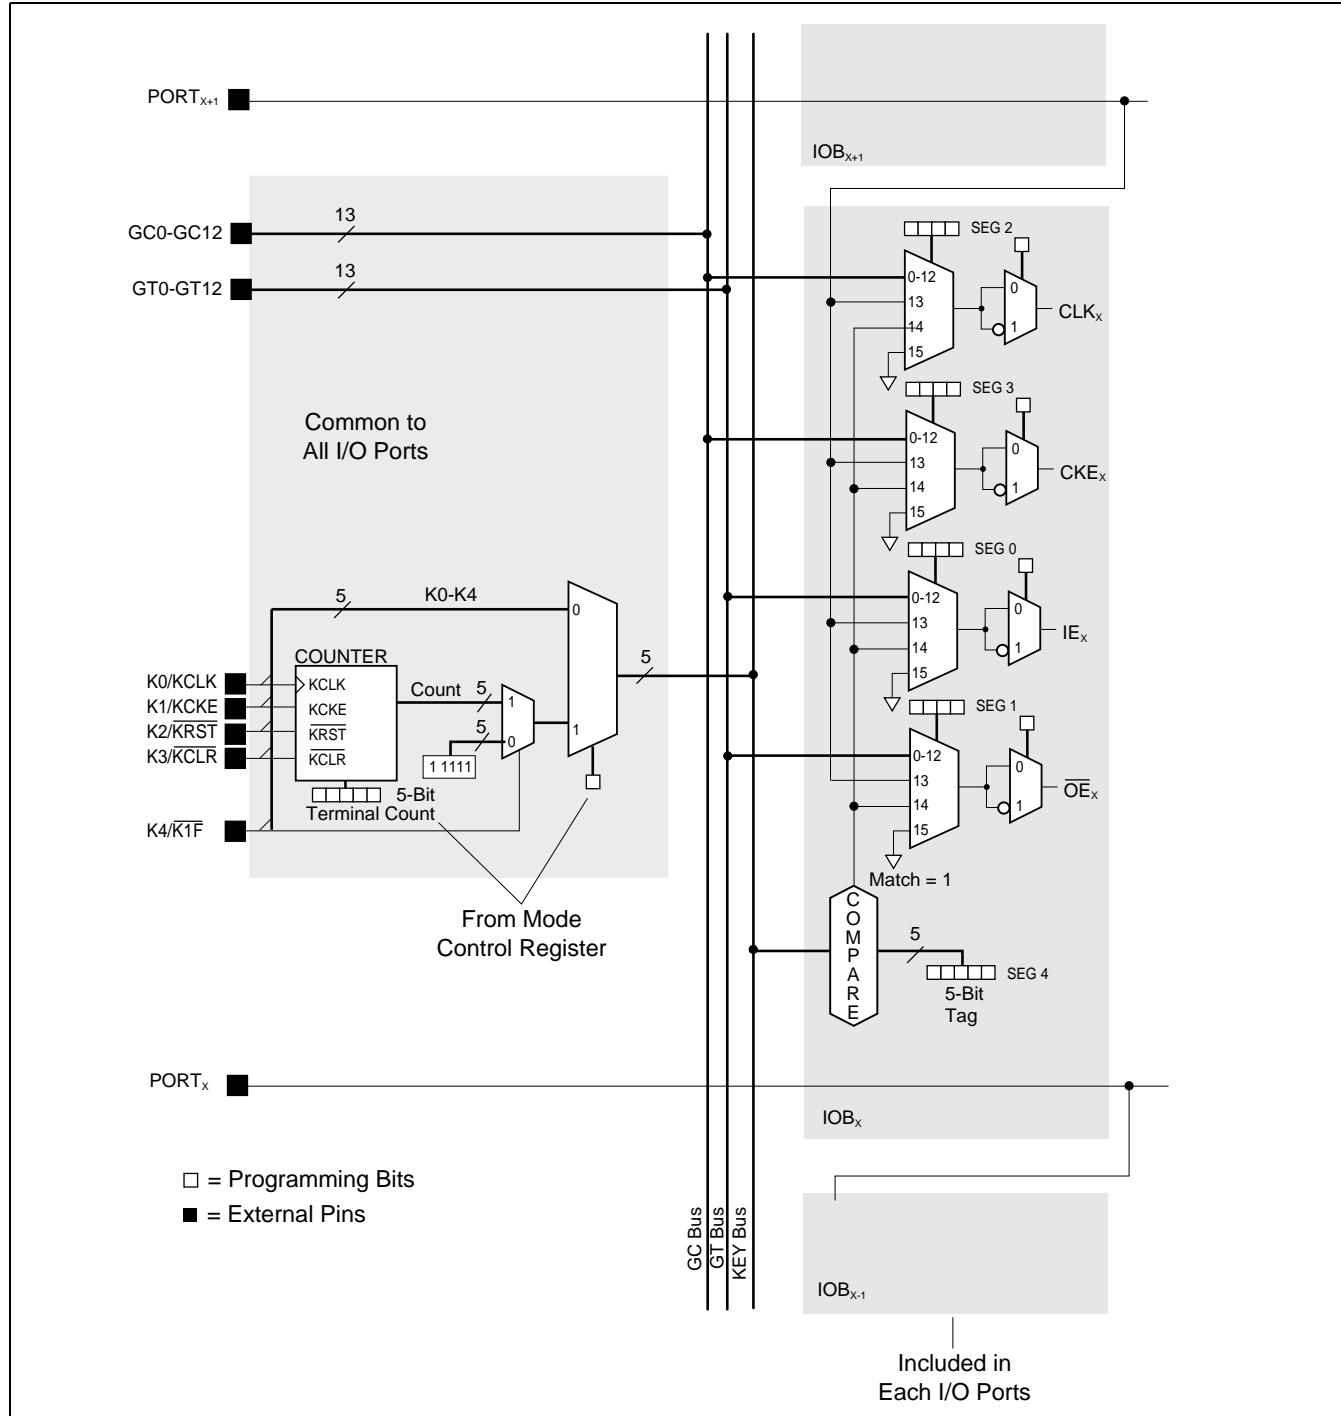

Figure 6. I/O Control
The IQX family has a structure that gives the user a lot of flexibility in controlling the behavior of each I/O Port. As shown in Figure 6 and described below, Clock (CLK), Clock Enable (CKE), Input Enable (IE) and Output Enable ( $\overline{OE}$ ) signals for each I/O Port can be selected from multiple sources. The control polarity can also be individually selected.
The Key Control feature on the IQX devices allows the user to encode mutually exclusive control signals for use as I/O control signals. The Key pins, K0 through K4 are shared with I/O Ports. This feature, shown schematically in Figure 6, works as follows:
When the device is reset all I/O Ports are set to the default configuration of flow-through input (IN). This is achieved by setting the 16-to-1 muxes shown in Figure 6, to select input 15 ( $V_{SS}$ ); while the 2-to-1 muxes used for polarity selections are set to select non-inverted value for Clock (CLK) and Clock Enable (CKE), and inverted value for Input Enable (IE) and Output Enable ( $\overline{OE}$ ).